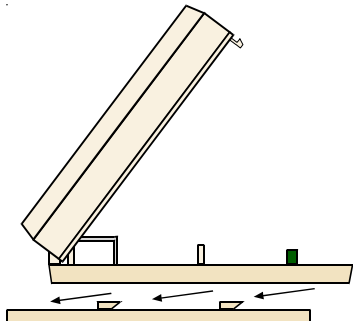

Figure 4 - Attaching Point Transmitter to Mounting Base
- Slide the Point Transmitter over the Mounting Plate to lock it into place (refer to Figure 4). If connecting an external device, make sure that its wiring is pulled through the Wire Entrance of the Point Transmitter as the Point Transmitter slides onto the Mounting Plate.